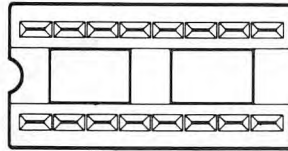

Figure 2-4. Location of chip and socket notches.
5. Align the notch on the chip with the notch in the socket. See Fig. 2-4.